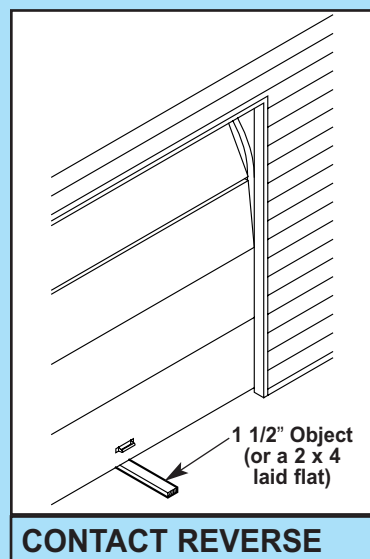

Fig. 7-2
3. **CONTACT REVERSE** (Fig. 7-2)